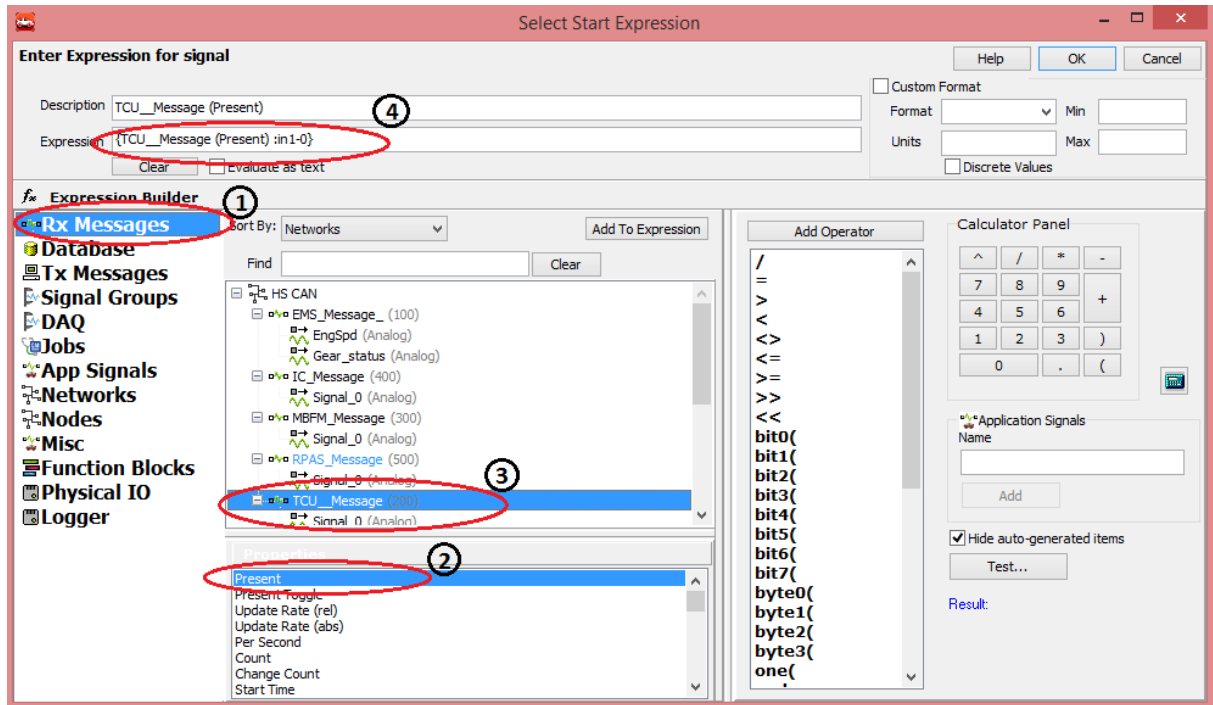

Figure 7: Expression Builder to give an expression for start on expression
- Click on 'Rx Messages' (Figure 7 (1)) and select 'Present' property (Figure 7 (2)) from property list then double click on 'TCU_message'(Figure 7 (3)). It will come in Expression block on top of window (Figure 5. (4)).